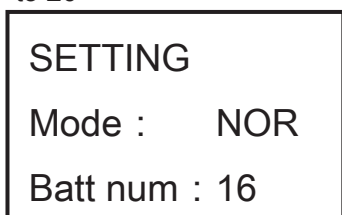

Fig.16 : setting menu
- 7) Select and confirm setting menu, setting information will be displayed on the screen, which includes user set, system set, parallel set, battery sett, revise set. See Fig 16 to 20